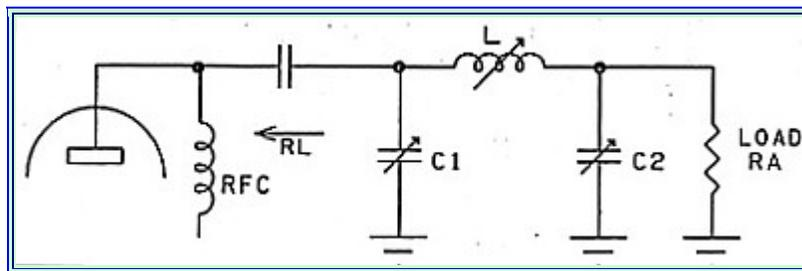
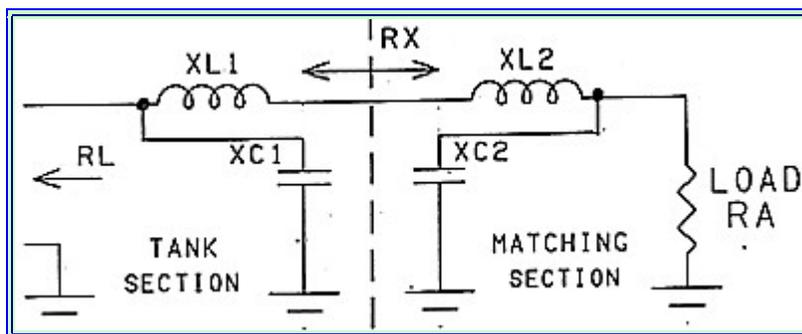

Figure 1: 'Pi' Output Coupling Network.
Figure 2: 'Pi' Output Coupling Network split into two sections for analysis.
2. The 'Pi' Output Coupling Network shown in Figure 1 is an ideal and suitable coupling system. To examine this network, we divide the network into two sections, shown in Figure 2, splitting the band inductor (L) into two parts, L_1 and L_2 .